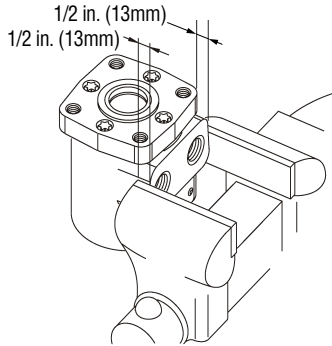

Figure 5-24, Motor Port Clamping
7. Reposition the motor in the vise. Clamp the motor across the ports as shown in (Figure 5-24). Do not clamp on the side of the housing. Be careful not to clamp too hard, as too much pressure could distort the motor housing.